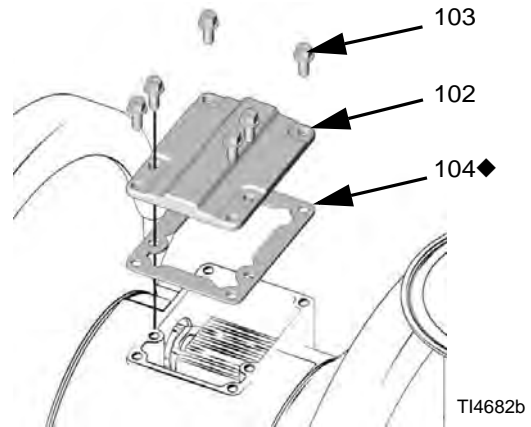

FIG. 12
9. Align the valve gasket (104) and cover (102) with the six holes in the center housing (101). Secure with six screws (103), using a Torx (T20) screwdriver or 7 mm (9/32 in.) socket wrench. Torque to 5.7-6.8 N•m (50-60 in-lb). See FIG. 12.